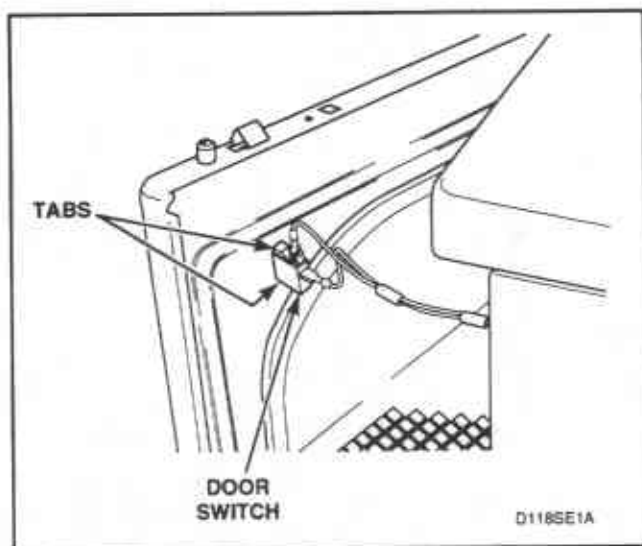

Figure 21
- Disconnect wires from door switch, *Figure 21*.
- Depress tabs on top and bottom of switch and push out of front panel, *Figure 21*.
- Depress tabs on top and bottom of catch and push out of front panel, *Figure 21*.
- d. Disconnect wires from door switch, *Figure 21*.